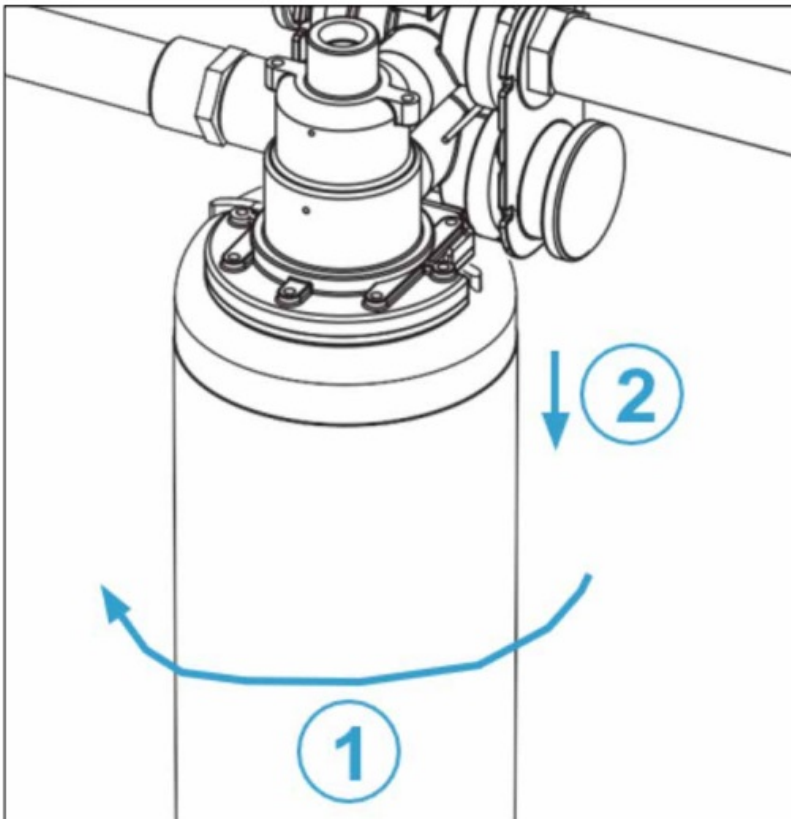

Figure 5. REMOVING CARTRIDGE
1. Holding the cartridge with both hands, swiftly rotate the cartridge quarter turn to the left until disengaged. The inlet water will automatically shut off (**Figure 5**).